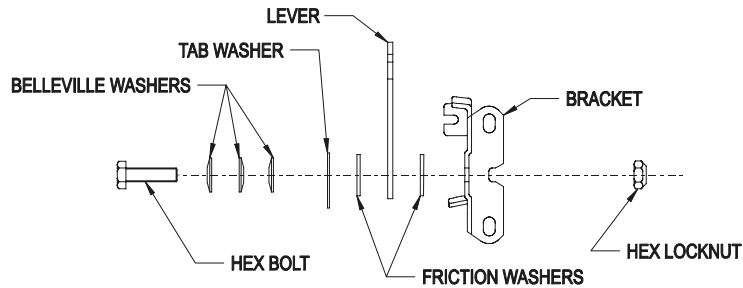

FIGURE 13
- Tension in throttle lever can be adjusted by adjusting the tightness of the lever pivot bolt, which is located under the console (See Figure 13).